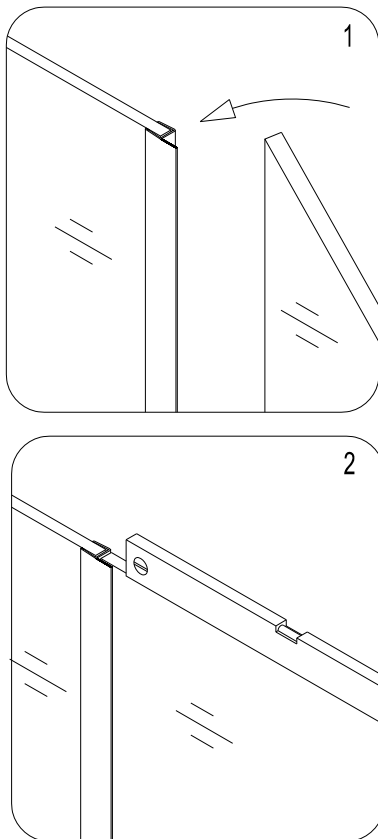

Fig 19
19. Close the glass door and make sure that there is 2~3mm between the glass door and the anti-water strip. See Fig 19 for details.